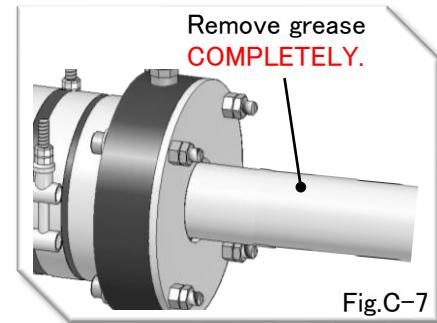

Fig.C-7
7. Then, remove grease from the sliding surface of mating ring, shaft surface and seal ring COMPLETELY with cleaning solvent. (See Fig.C-7)